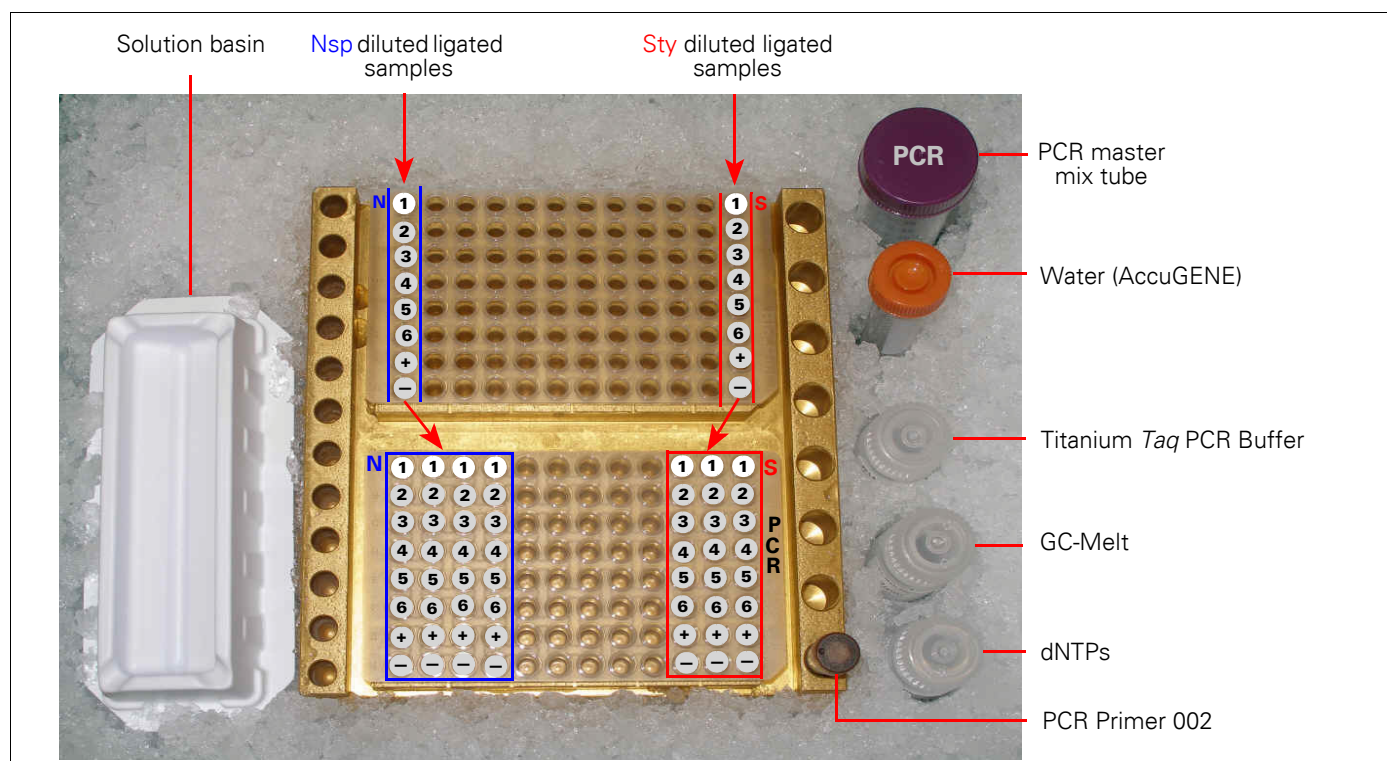

Figure 4.13 Setup for PCR (Titanium *Taq* DNA Polymerase not shown; still at -20°C)
To setup your work area (Figure 4.13 on page 45):
- B. Place in the top half of the chamber as shown in Figure 4.13 on page 45.
- A. Transfer 10 μL of each Nsp ligated sample to the corresponding **four** wells of the PCR plate Figure 4.13 on page 45).